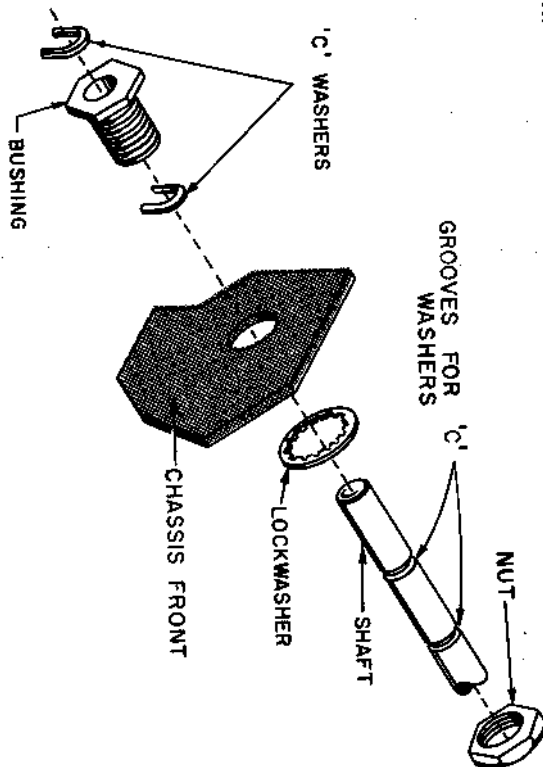

FIGURE 22. BANDSWITCH SHAFT ASSEMBLY
- ☒ Put the BANDSWITCH shaft assembly together as shown in Figure 22. After the "C" washers are in the grooves crimp them so they don't fall off.